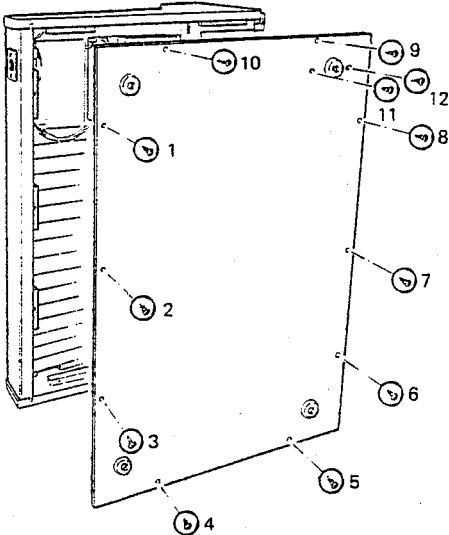

Fig. 1
Remove 12 screws ① through ⑫ in Fig. 1, and remove the bottom board.